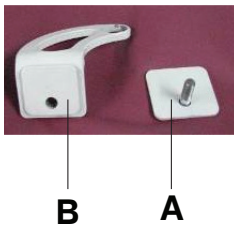
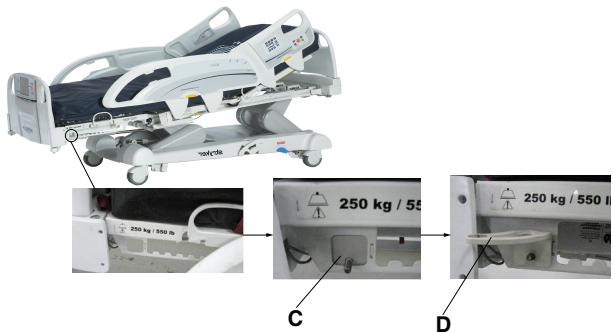

Figure 118: Bracket and bracket back
Figure 119: Attaching the bracket back and bracket
1. Attach the bracket back (A) and the bracket (B) (Figure 118 on page 102) onto the end of the foot end Foley bag hook at the foot end of the product (C and D) (Figure 119 on page 102).